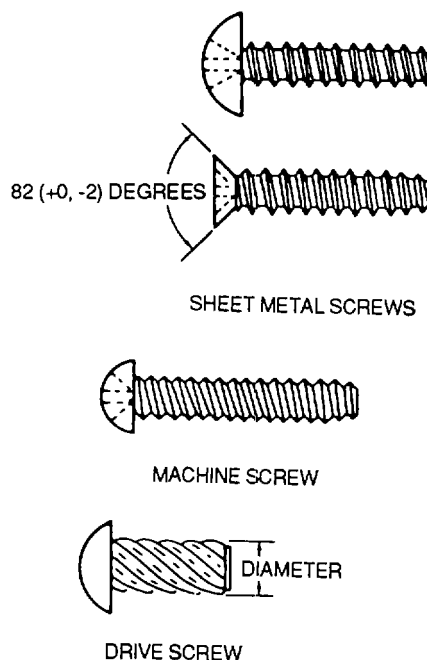

Figure 2-40. Self Tapping Screws
(1) *Machine screws*. Use AN504 machine self-tapping screws, as shown in figure 2-40, to attach removable parts such as nameplates and other similar items to castings. These screws tap their own mating threads when driven into untapped drilled or punched holes slightly smaller than the outside diameter of the screw itself.
(3) **Drive screws.** Drive screws, MS21318, as shown in figure 2-40, are plain head, self-tapping screws used as capscrews in the attachment of nameplates in castings or in sealing drain holes in corrosion-proofing tubular structures. These screws differ from other self-tapping screws in that they are not formed to fit screwdrivers and are not intended to be removed after installation. Drive screws are installed by driving the screw into a drilled hole with a hammer.